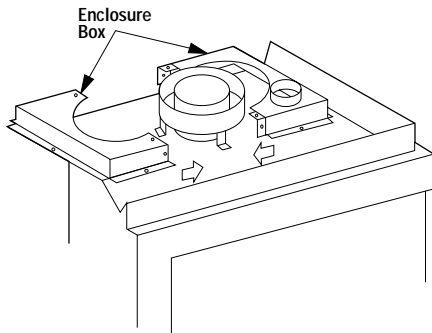

Figure 10
**Step 4.** Attach the chimney collar enclosure kit, Model CCK1, around chimney collar with the screws provided (Figure 10).